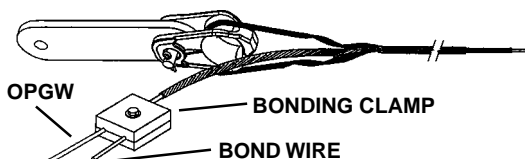

FIGURE 1B - CUSTOM DEAD-END ASSEMBLY WITH OPTIONAL BONDING CLAMP
10. **Bonding Clamp** (special option, may be customer supplied, not shown above, see Figure 1B)
- D. **Bonding Hardware:** The Current Transfer Tab is provided for electrical grounding/bonding from the OPGW to the supporting structure or ground lead. The Current Transfer Tab is rated for 90kA². The standard FIBERLIGN® Formed Wire Dead-end includes a Current Transfer Tab with every kit. PLP can offer an optional bond clamp design shown in Figure 1B. Specify the outer diameter and material of OPGW and bond wire to PLP for proper selection.
6.01 PLP can provide the bonding clamp hardware shown in Figure 1B. The bonding clamp has been designed to accept the outer diameter of the OPGW and bond wire. General application guidelines follow.
Other than the reference to the Current Transfer Tab, the methods and techniques described for installing the SRRs and dead-end of the standard assembly apply for the custom dead-end assembly shown in Figure 1B.